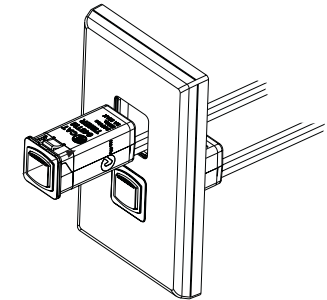

Figure 6: Mounting Timer
3. Snap unit into a modular mounting plate as shown in figure 6.